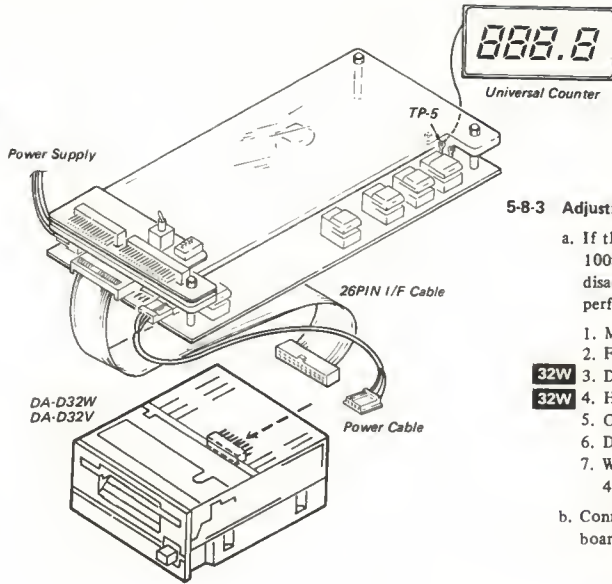

Fig. 5-8 (a) Motor Speed Measurement
- a. Connect the disk drive to the MFD Checker II. (Refer to Fig. 5-8 (a))